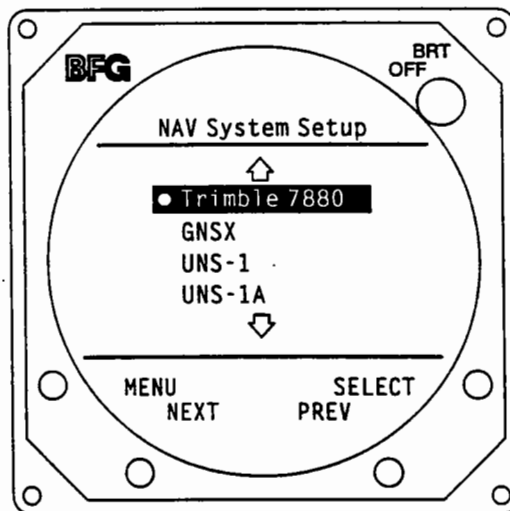

Figure C-2. NAV System Setup
The display pushbuttons perform the following operations in NAV System Setup mode (figure C-2):
2. Highlight "NAV System Setup" on the Service Menu and then press the SELECT pushbutton to display the NAV System Setup screen (figure C-2).
Refer to figure C-2 for a typical setup screen.